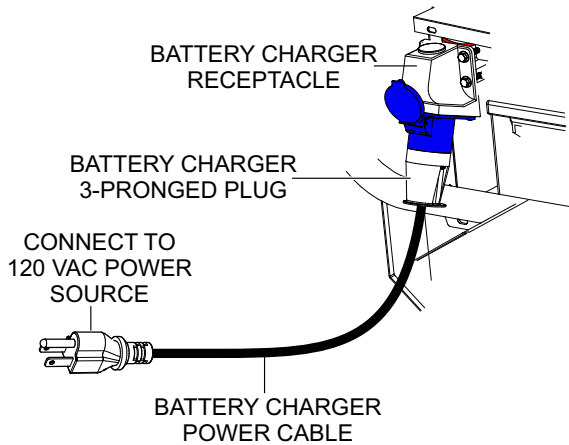

Figure 59. Battery Charger Power Cable
3. Insert the 3-pronged blue and white battery charger power cable plug into the battery charger receptacle as shown in Figure 59.